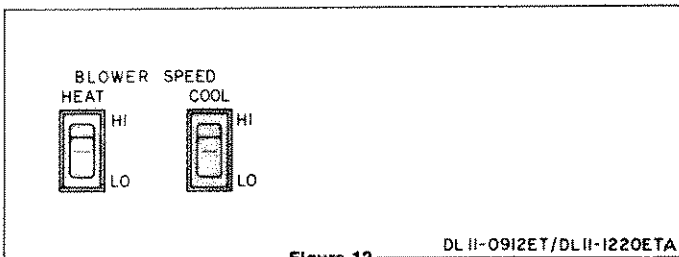

Figure 12 DL II-09I2ET/DL II-I22OETA
4. Select blower speed (See Figure 12.)
3. Select blower speed (See Figure 12).
1. At times it may be desirable to reduce the operating sound level. This is possible by setting the High-Low switches located under the control box cover to the low setting. (See Figure 12.) NOTE: Heating or cooling capacity is not reduced - only the blower speed and air movement are reduced.